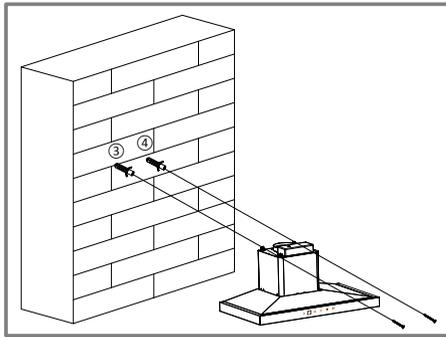
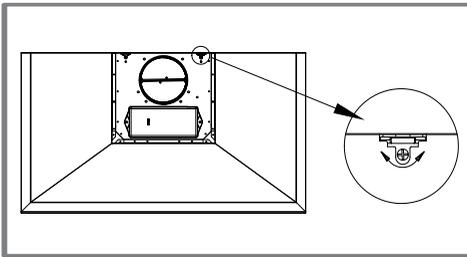
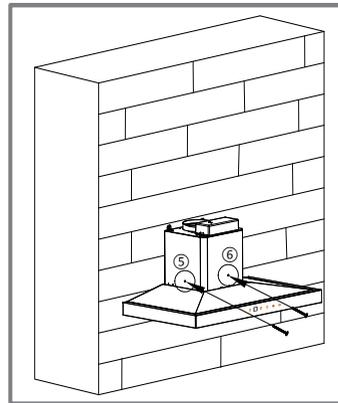

Fig. 8
Fig. 9
Fig. 10
Step 3 (Fig. 8 / Fig. 9 / Fig. 10)
- ▶ Mount the appliance onto the wall and do ensure that it is properly engaged with the mounting screws ③ & ④. (Fig. 8)
- ▶ If there is a need to realign the appliance, adjust the screws on the top of the housing. (Fig. 9)
- ▶ Tighten the screws ③, ④, ⑤, ⑥ firmly after realignment. (Fig. 10)